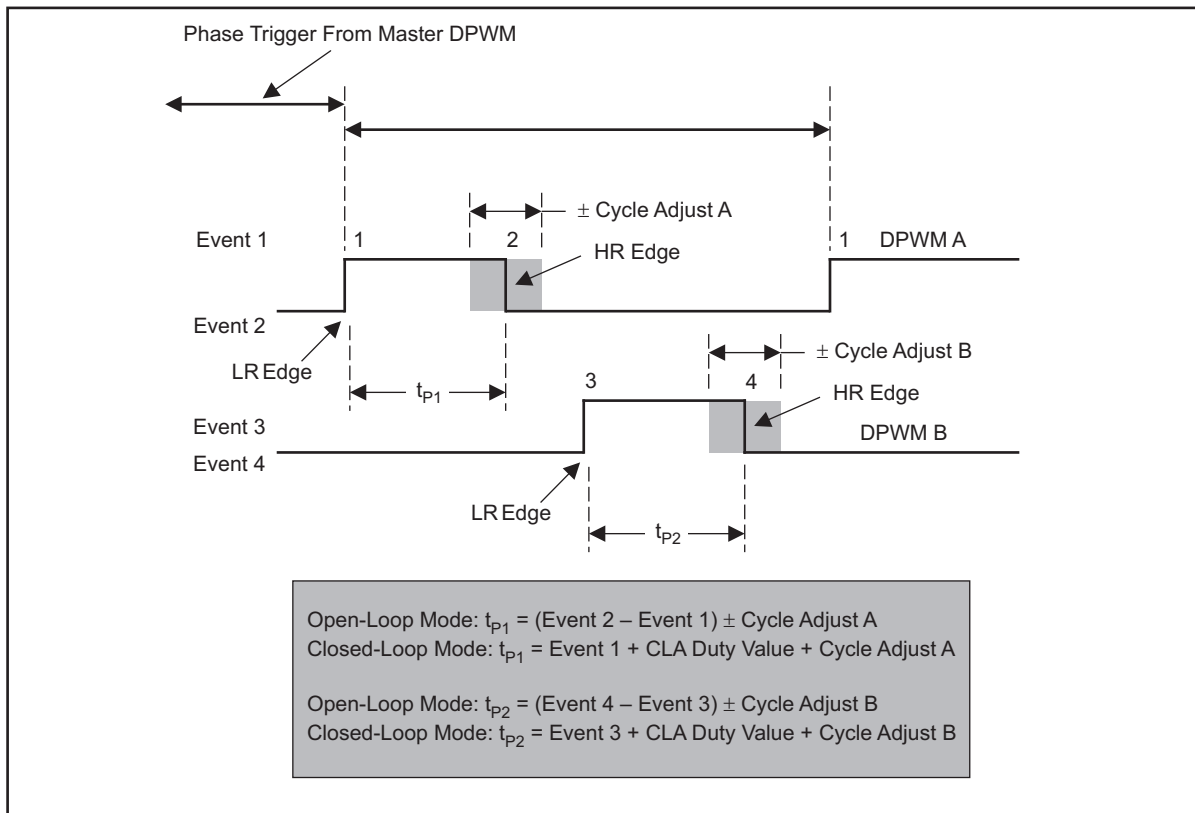

Figure 11. Multi-Output Mode – DPWM Timing Diagram
- While applying a -ve cycle adjust to DPWM B, the minimum on-pulse width (calculated value of t_{p2} in Figure 11) should be limited to 0. A -ve value for the DPWM B on-pulse width is not valid.